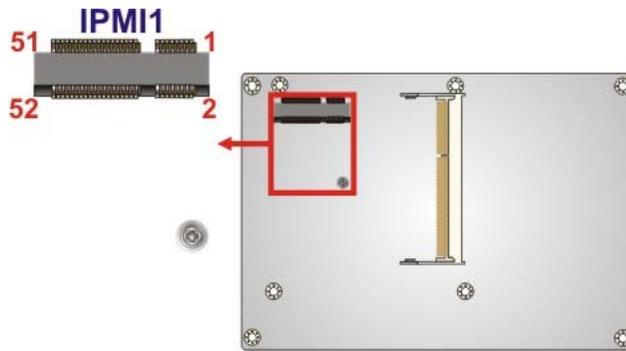

Figure 3-10: iRIS Module Slot Location
- CN Location:** See **Figure 3-10**